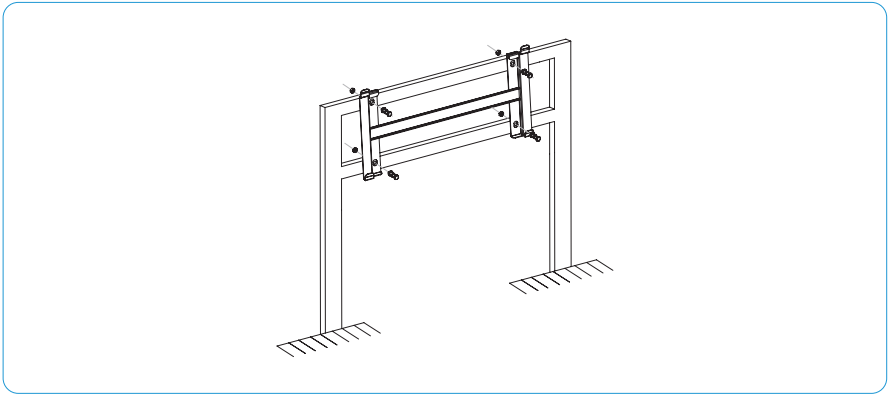

Figure 4-6 Fixing the bracket
3) Follow the instructions in the picture below to install the M10 bracket screws (bolt, spring washer, flat washer) and tighten the bolts with torque wrench in the torque of 35-40N.m, see Figure 4-6 for details: